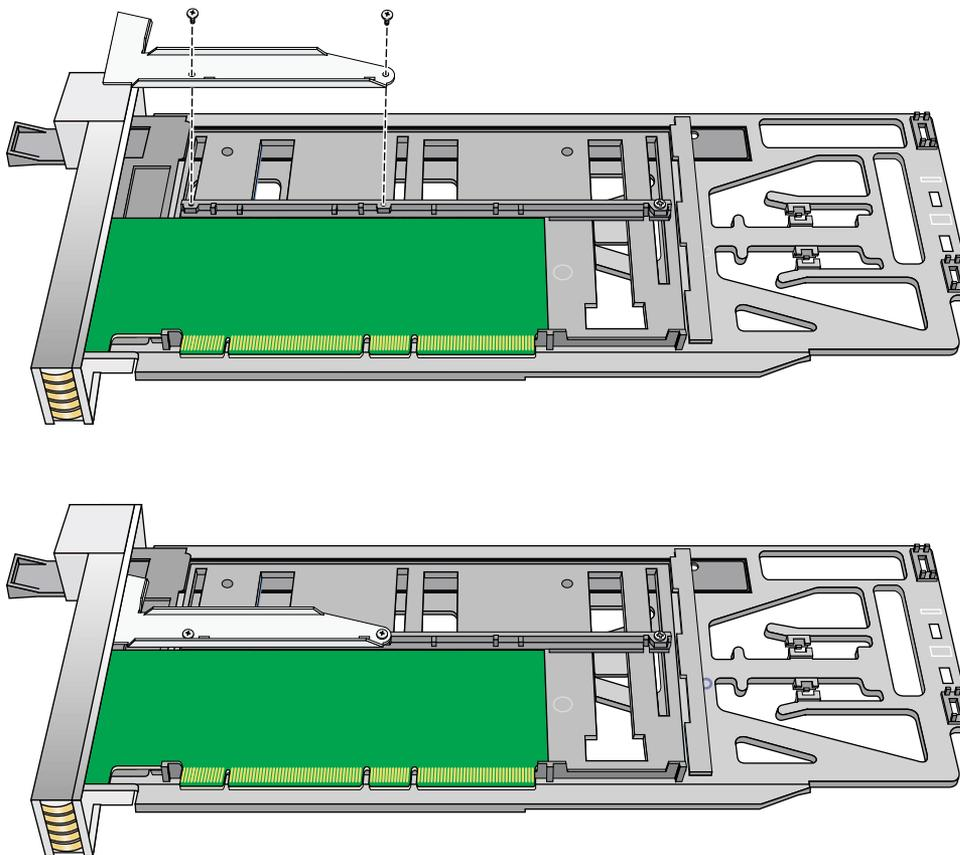

Figure 14 Installing the Bracket to Secure a Half-height PCI Card
- e. Place the PCI card bracket so that the screw holes of the bracket align with the empty screw holes of the carrier guide bar, as shown in Figure 14.